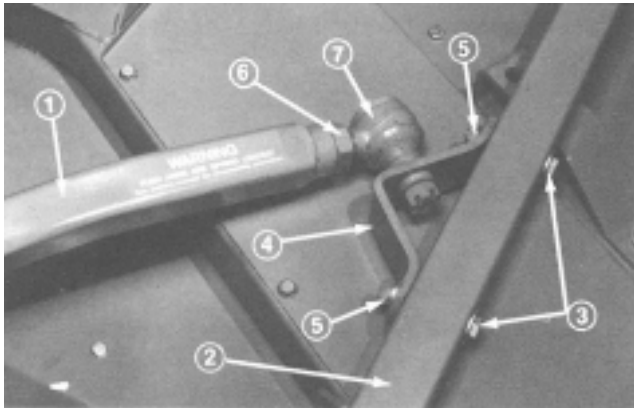

Figure 12
- 4. Secure the ball joint mount to the castor arm (Fig. 12) with 2 capscrews (7/16 x 3 in.), flat washer (7/16 in.), and nuts (7/16 in.). The head of the capscrew and the large flat washer must be outside of the castor arm.
- 5. Tighten the large jam nut against the front of the right push arm (Fig. 12). When tightening the jam nut, hold the ball joint straight to permit proper oscillation during raising and lowering of the cutting unit.